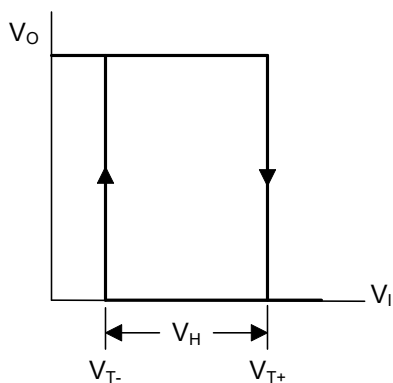

Figure 8-5 Transfer characteristic
(1) Input on terminals 1, 5, 8, 12 or 2, 6, 9, 13; other inputs to V_{DD} .
(2) Input on terminals 1 and 2, 5 and 6, 8 and 9 or 12 and 13; other inputs to V_{DD} .
(3) See Figure 8-5 and Figure 8-6.